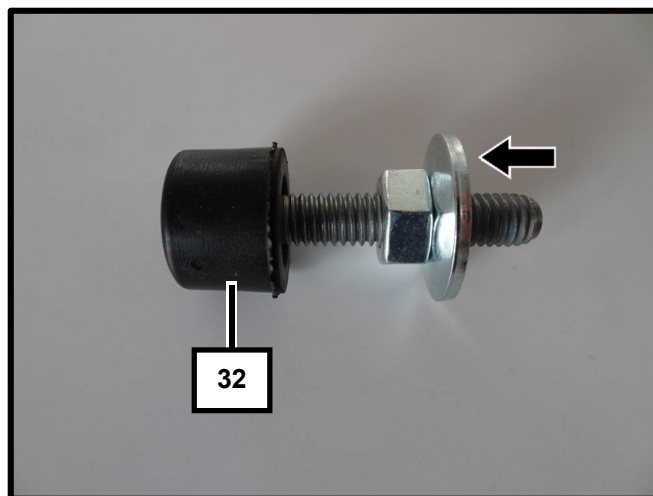

Fig. 47
- 46 Align the TECHART base frame (34) to the vehicle, for that adjust the stopper in such way that it fits to the side part, gap about 1mm.
Adjust the height with the stoppers (32) (Fig. 47 and 48) in such way that the base frame fits perfectly.